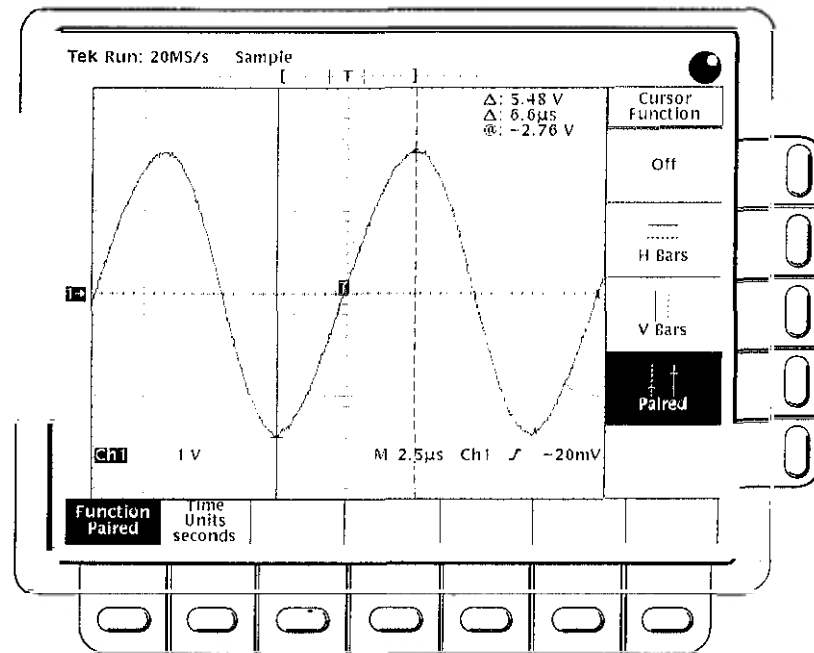

Figure 3-20: Paired Cursor Measurements of a Sine Wave
- Use the **General Purpose Knob** to move one cursor to a desired measurement point. For example, if you wanted to measure both the peak-to-peak voltage and period of a sine wave, you would start by moving one paired cursor to a "trough" (see Figure 3-20).
- Read the measured value(s) at the upper right corner of the display next to the Δ sign(s). Figure 3-20 shows a sine wave with a 5.48 V_{p-p} and a 13.2 μ s period (6.6 μ s X 2).